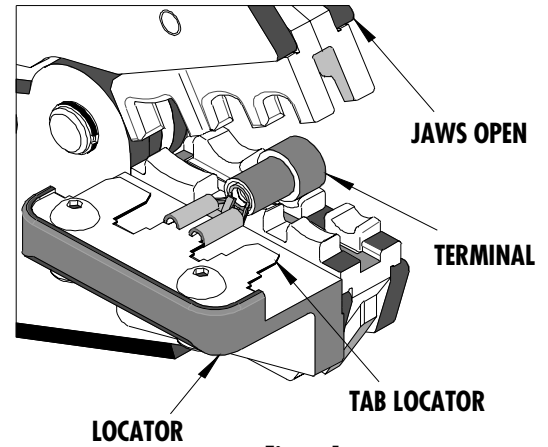

Figure 1
2. Push the terminal onto the Tab Locator all the way to the stop in the proper color-coded nest. The Barrel of the terminal should be up (See Figure 1).